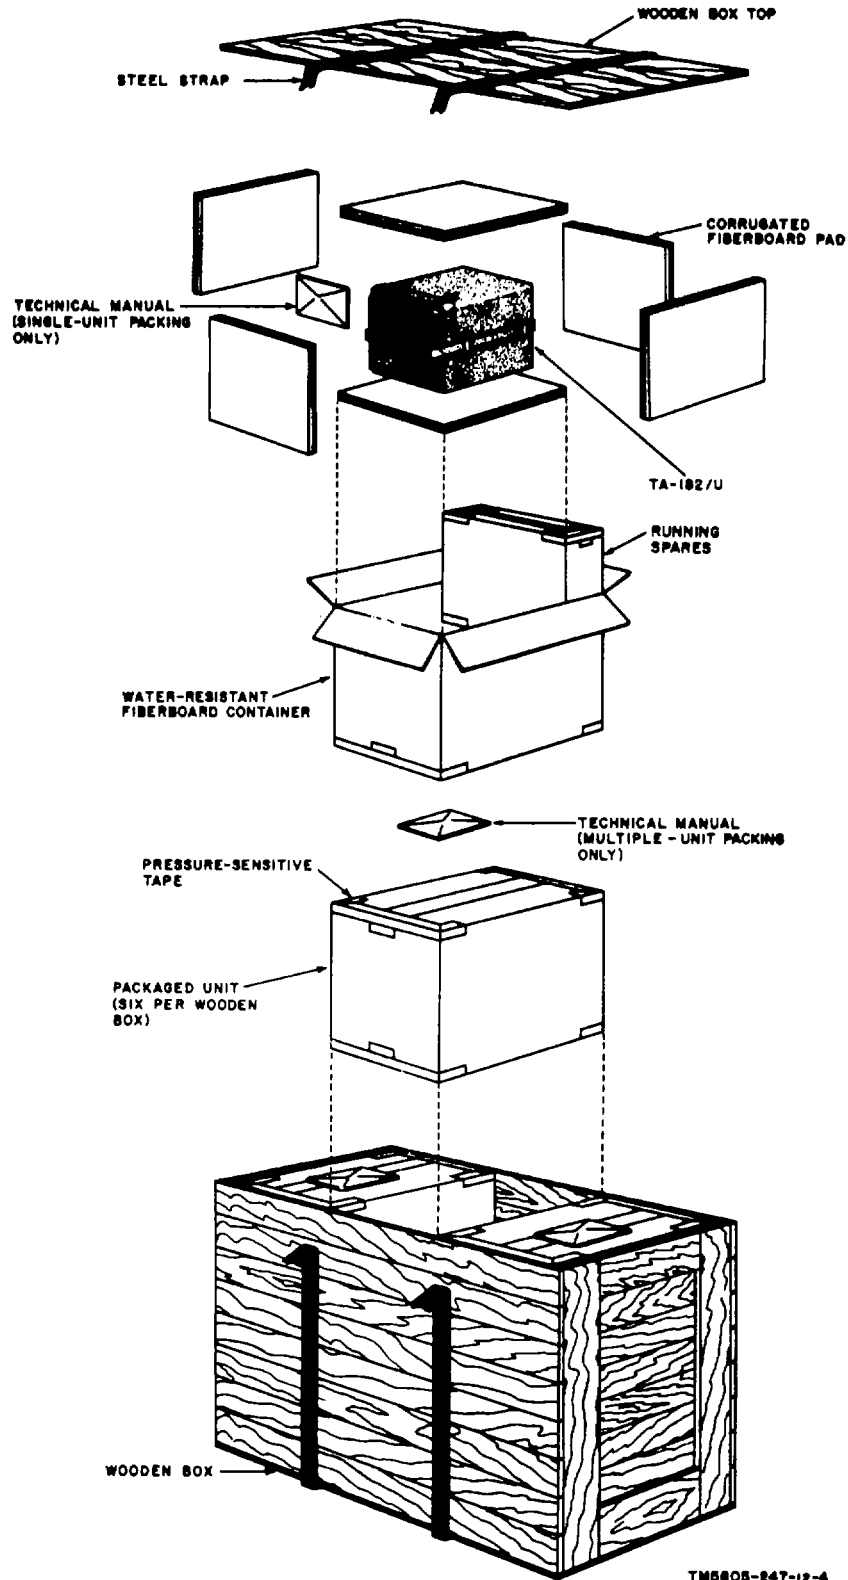

Figure 3-1. Packing diagram, Converter, Telegraph-Telephone Signal TA-182/U.
b. Removing Contents (fig. 3-1). When equipment is received, unpack it in a sheltered area as close as possible to the site at which it will be used. Perform the procedures below that are appropriate for the type of shipment received; refer to (1) through (8) for equipment shipped in wooden boxes; refer to (4) through (9) for single unit shipment.
- (1) Cut the steel straps approximately 3 inches below the top of the wooden box and fold them back.
- (2) Remove the nails from the top of the wooden box with a nailpuller and remove the top.
- (3) Lift each fiberboard container out of the box, in turn, and remove the technical manuals.
- (4) Cut the pressure-sensitive tape around the top of each fiberboard container and open the flaps. Make certain that the cutting tool does not enter the interior of the container.
- (5) Remove the flat corrugated-fiberboard pads from the top and four sides of the equipment and lift the TA-182/U out of the container.
- (6) Remove the remaining package from the fiberboard container. This package contains the running spares.
- (7) Cut through the three edges of one side of the running spares package. Make sure that the cutting tool does not enter the interior of the package.
- (8) Fold back the side of the running spares package and remove the contents.
- (9) Remove the technical manuals from the top of the TA-182/U.